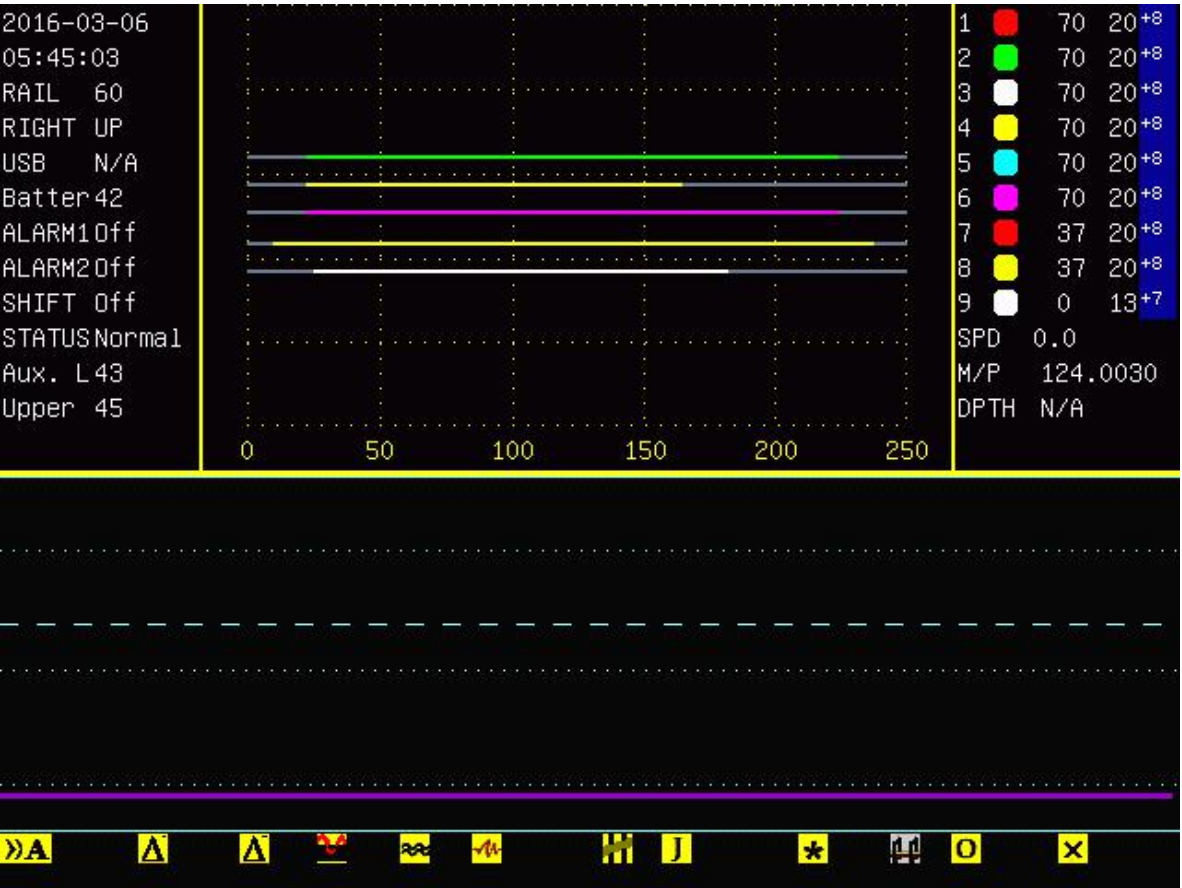

Figure 6 Examples of icons entered during B-scan
When the “Shift” key is turned off, please use numerical key 0~9 to input icon for annotation of the B-scan image. When the “Shift” key is turned on, these numerical keys can be used to input defect. The following Figure 6 shows some of the icons.